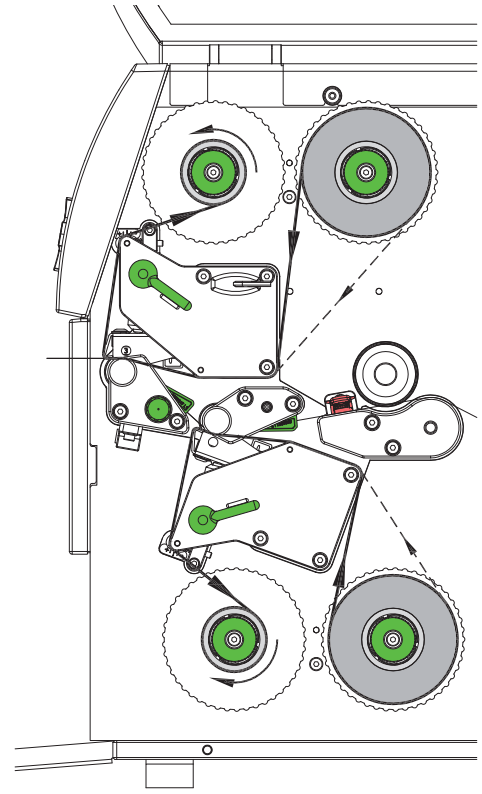

Fig. 13 Transfer ribbon feed path
2. Turn lever (6) counterclockwise to lift the upper printhead.
3. Slide transfer ribbon roll (1) onto the ribbon supply hub (3) so that the color coating of the ribbon faces downward when being unwound.
4. Position the ribbon roll (1) in such a way that both ends of the roll show identical scale values.
5. Hold transfer ribbon roll (1) firmly and turn knob (3) on ribbon supply hub counterclockwise until the transfer ribbon roll is secured.
6. Slide suitable transfer ribbon core (4) onto the transfer ribbon take-up hub (5). Position and secure it in the same way like the supply roll.
7. Guide transfer ribbon through the print unit as shown in Fig. 13.
8. Secure starting end of transfer ribbon to middle of the transfer ribbon core (4) with adhesive tape. When using cores which are wider than the transfer ribbon use the scale (7) at the printhead retainer to adjust the path of the ribbon. Ensure counterclockwise rotation direction of the transfer ribbon take-up hub.
9. Turn transfer ribbon take-up hub (5) counterclockwise to smooth out the feed path of the transfer ribbon.
10. Turn lever (6) clockwise to lock the printhead.
11. Open the flap (9) and load transfer ribbon to the lower print unit (8) in a similar way. All previous statements of direction apply contrariwise excepting the turning of the knobs.